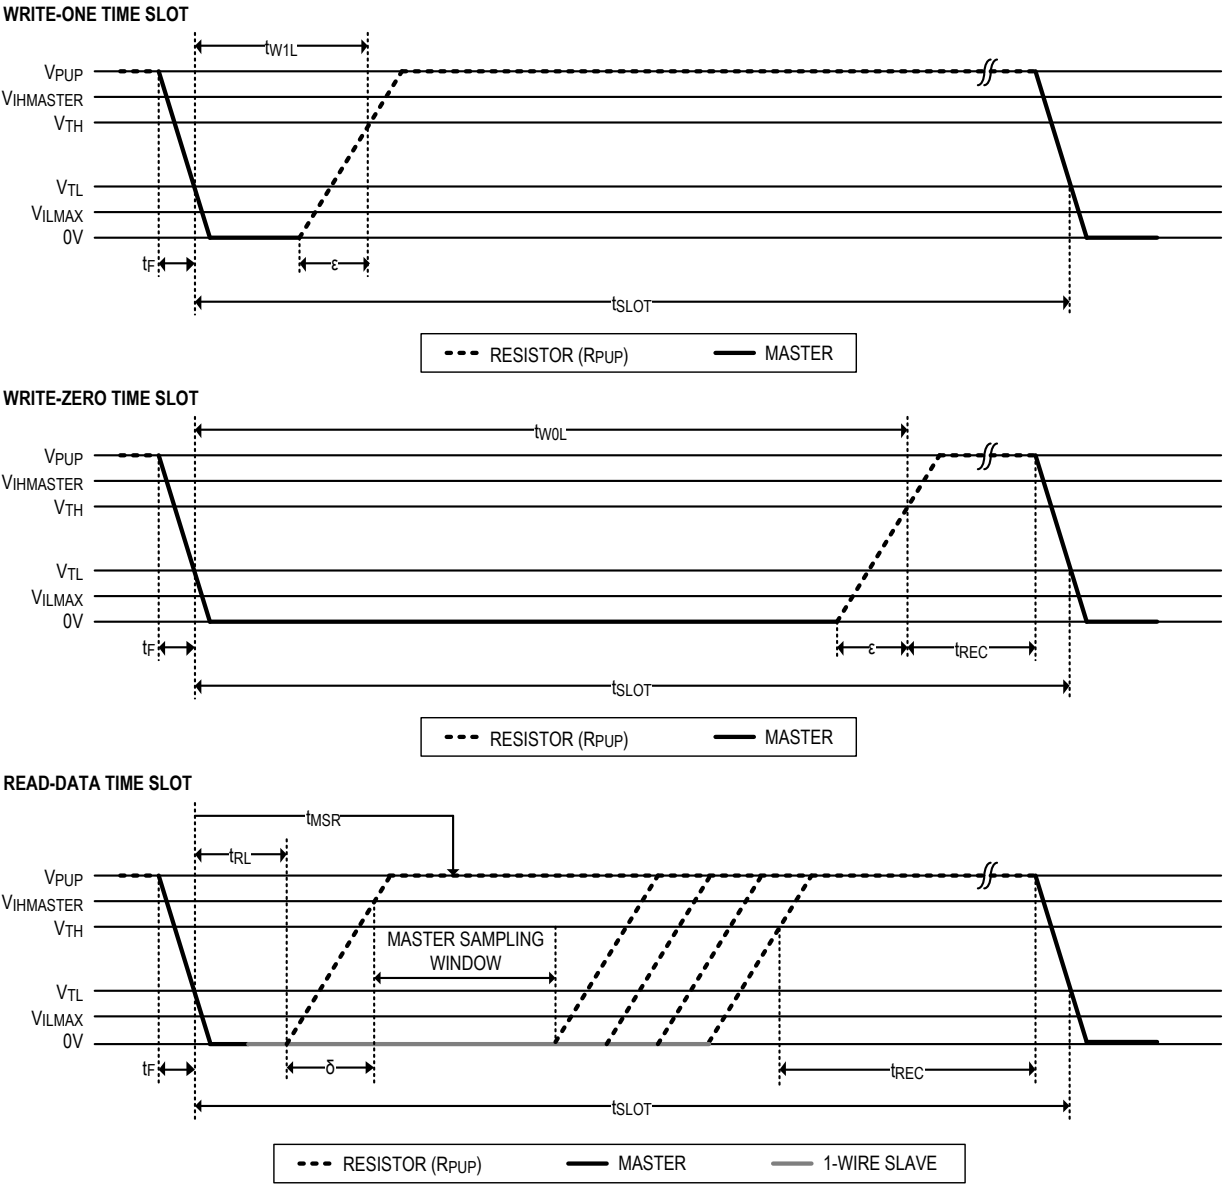

Figure 6. Read/Write Timing Diagrams
**Note 18:**  $\epsilon$  in Figure 6 represents the time required for the pullup circuitry to pull the voltage on IO up from  $V_{\text{IL}}$  to  $V_{\text{TH}}$ .
**Note 19:**  $\delta$  in Figure 6 represents the time required for the pullup circuitry to pull the voltage on IO up from  $V_{\text{IL}}$  to the input-high threshold of the bus master.
To get from idle to active, the voltage on the 1-Wire line needs to fall from  $V_{PUP}$  below the threshold  $V_{TL}$ . To get from active to idle, the voltage needs to rise from  $V_{ILMAX}$  past the threshold  $V_{TH}$ . The time it takes for the voltage to make this rise is seen in Figure 6 as  $\epsilon$ , and its duration depends on the pullup resistor ( $R_{PUP}$ ) used and the capacitance of the 1-Wire network attached. The voltage  $V_{ILMAX}$  is relevant for the DS28E36 when determining a logical level, not triggering any events.
Data communication with the DS28E36 takes place in time slots that carry a single bit each. Write time slots transport data from bus master to slave. Read time slots transfer data from slave to master. Figure 6 illustrates the definitions of the write and read time slots.